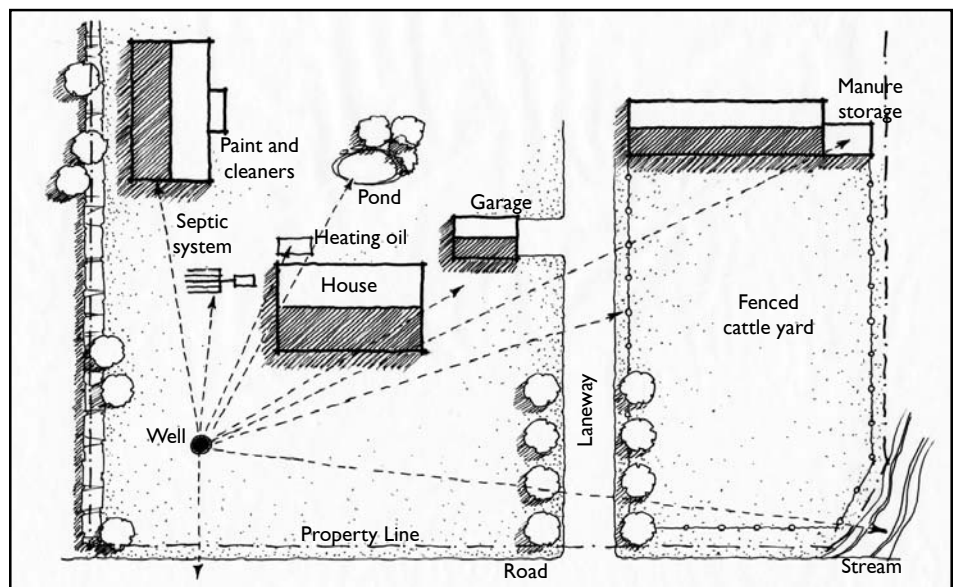

Figure 3: Well Separation Distances
- Location – (Figure 3) A well should be located at least 15 m (50 ft.) from any source of contamination if the casing is watertight to a depth of 6 m (20 ft.); otherwise, the separation distance should be at least 30 m (100 ft.). Sources of contamination include: septic systems, manure storages, fuel storages, agricultural fields (manure or fertilizer runoff), roads (salt runoff). Wells should be located at least 15 m (50 ft.) from a body of water.